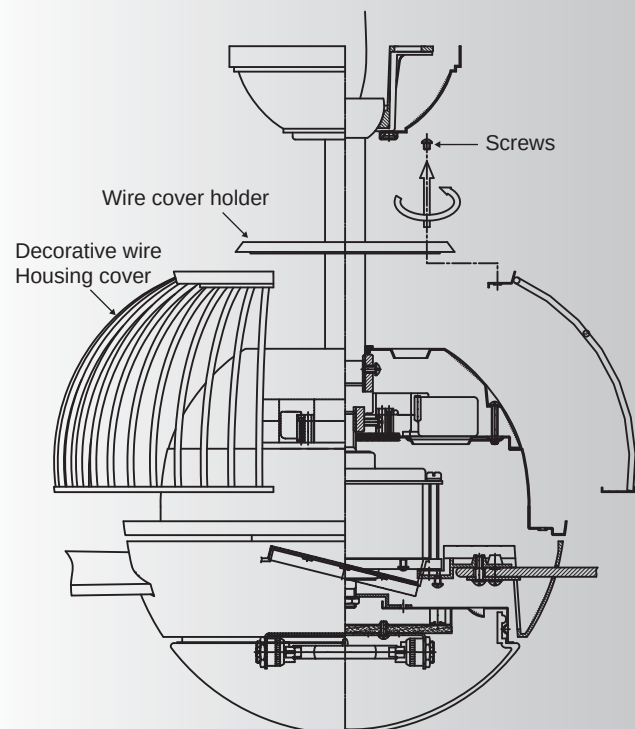

Fig. 20
Step 2. Remove the screws on top of the Decorative Cover Holder. (Fig. 20)